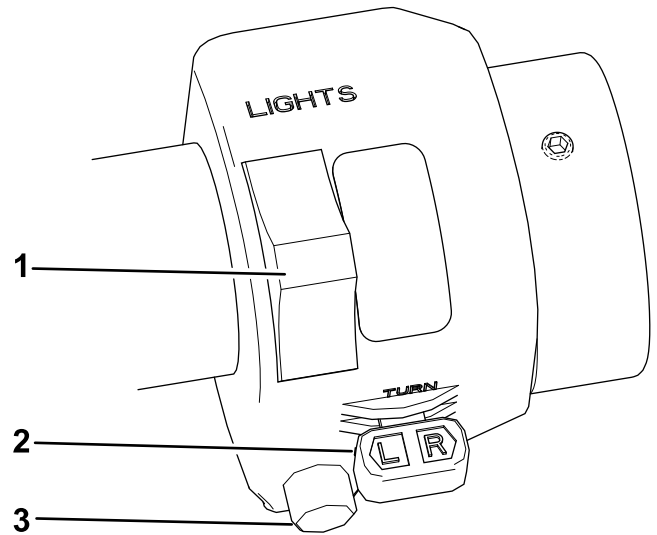

Figure 19
- The **direction-indicator switch** operates the right and left direction indicator lights when the ignition is switched to the ON position (Figure 19).
- The headlamp and dipped beam switch operates the headlamps only when the ignition is switched to On (Figure 19).